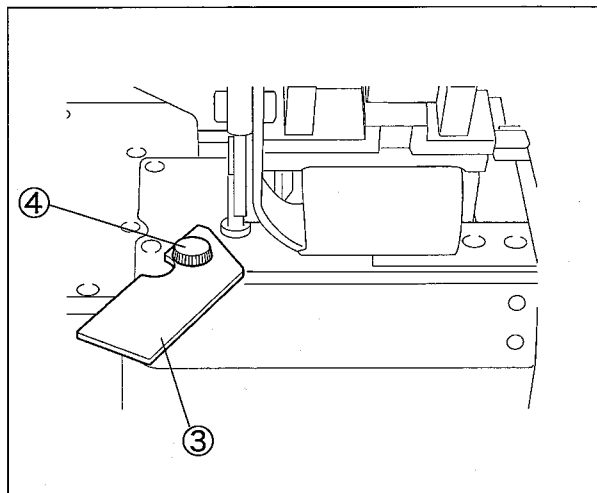

Fig. 24
1. Loosen the screw④ of the roller lower plate(right)③ turn the roller lower plate upside down and place it with an angle as shown in the figure, because of not using. (Fig.24)